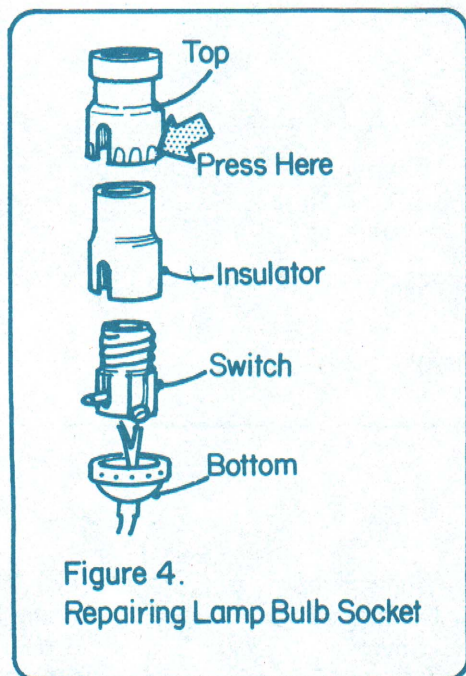

Figure 4.
- Press on the side of the "top" with your thumb and lift it and the insulator off Figure 4